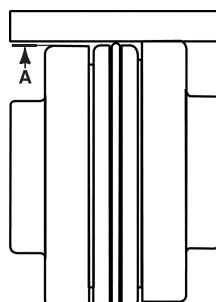

Figure 2-3
(Refer to Figure 2-3)
2. Measure the maximum offset (A), Figure 2-3, at various points around the periphery of the coupling. DO NOT rotate the coupling.